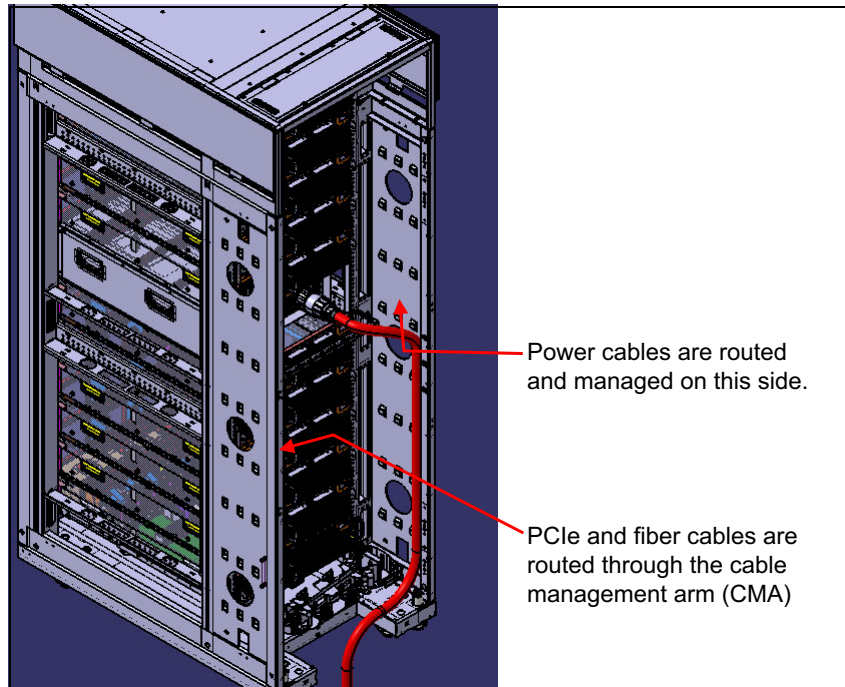

Figure 3-5 I/O rack BPE power cord
1. Install the BPE power cord, but do not plug it into the facilities connector at this time. See Figure 3-5.